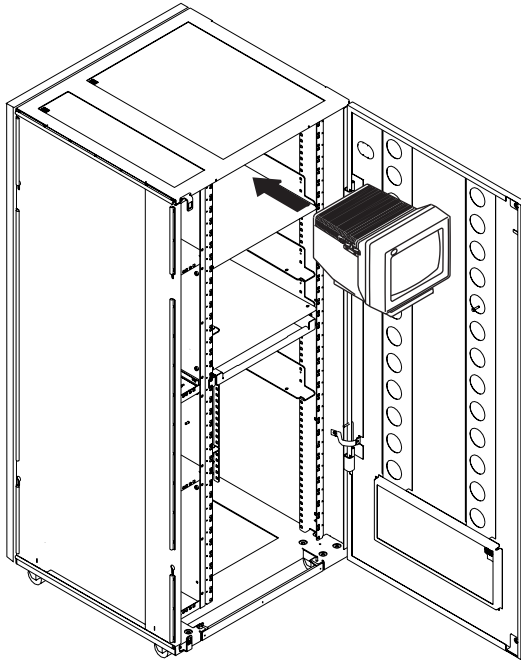

Figure 1-49. Installing the Display Screen in the Controller Expansion (Front Side)
9. ____ Slide the display screen on the top of the controller expansion (refer to Figure 1-49).